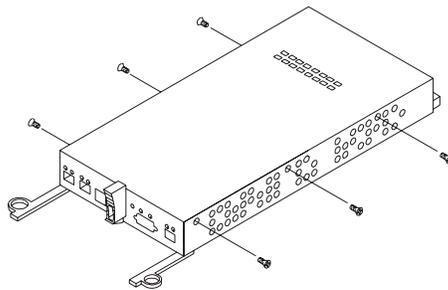

Figure 102. Controller battery-access panel screws
6. To access the cache battery, place the RAID controller CRU bottom up on a flat surface. Using a #2 Phillips head screwdriver, remove the six screws (three on each side of the RAID controller) that hold the RAID controller bottom panel to the sides of the RAID controller, as shown in Figure 102.
12. Place the replacement RAID controller CRU bottom up on a flat surface. Using a #2 Phillips head screwdriver, remove the six screws (three on each side of the RAID controller) that hold the RAID controller bottom panel to the sides of the RAID controller, as shown in Figure 102 on page 138.
9. Place the RAID controller CRU bottom up on a flat surface. Using a #2 Phillips head screwdriver, remove the six screws (three on each side of the RAID controller) that hold the RAID controller bottom panel to the sides of the RAID controller, as shown in Figure 102 on page 138.